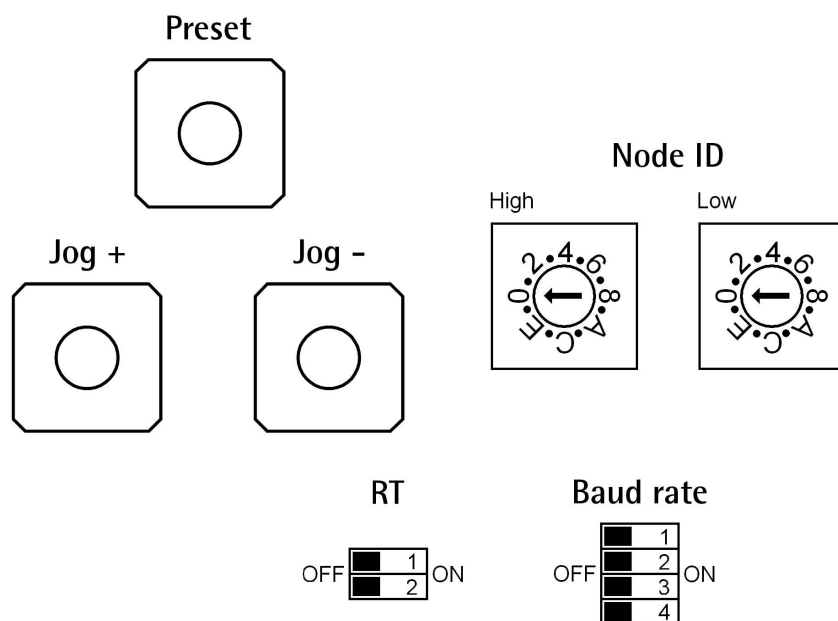

Figure 5: Dip-Switches and buttons
4.4 Dip-Switches and buttons (Figure 5)
4.4.1 Setting the node address: Node ID (Figure 5)
4.4.2 Setting data transmission rate: Baud rate and Parity bit (Figure 5)
4.4.3 RT bus termination (Figure 5)
4.4.4 JOG + and JOG – buttons (Figure 5)
4.4.5 PRESET button (Figure 5)
To configure the serial port of the RD1xA device refer to section "4.4.2 Setting data transmission rate: Baud rate and Parity bit (Figure 5)" on page 25.
Then set the node address of the device the personal computer is connected to through the **Slave settings** box (default value for all RD1xA-Modbus positioning units = 1). To set the node address of the RD1xA device refer to section "4.4.1 Setting the node address: Node ID (Figure 5)" on page 24.